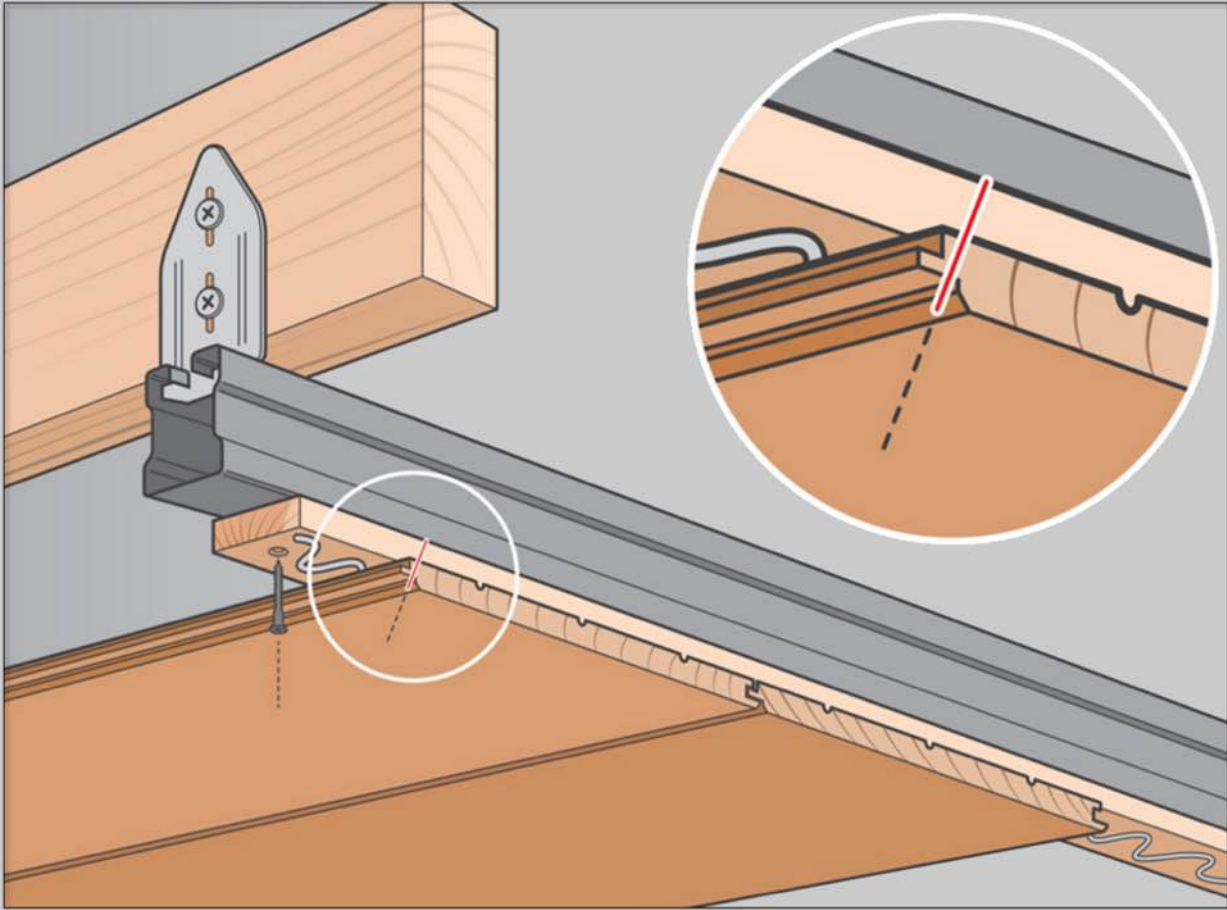

Fig 3. Panelling requiring secret nailing onto metal track system
- **For Wave Panel, Mountain Panel, Contemp Clad or Groovy Clad that cannot use face fixing screws**, it is necessary to securely scw a timber batten to the bottom of a metal track, then proceed as per timber framing projects (See Figure 3).